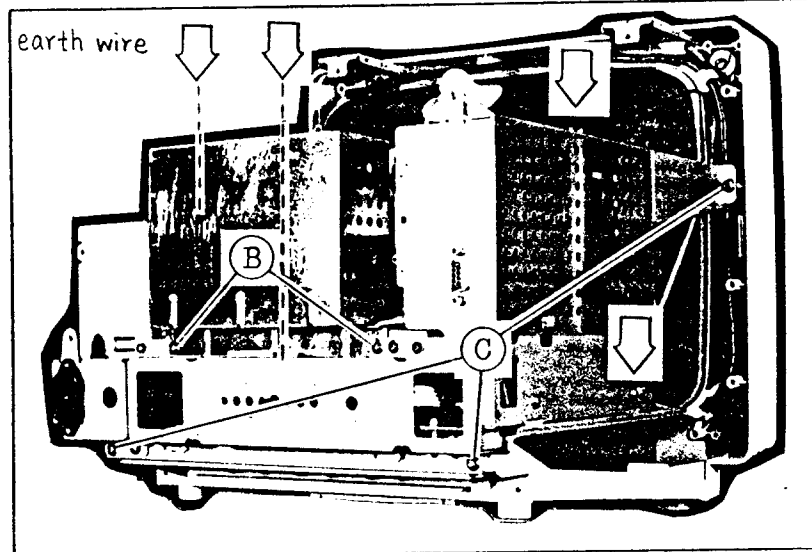

Fig. 2
1. Remove the two screws marked (B) shown in Fig. 2.
2. Remove the three screws marked (C) shown in Fig. 2.